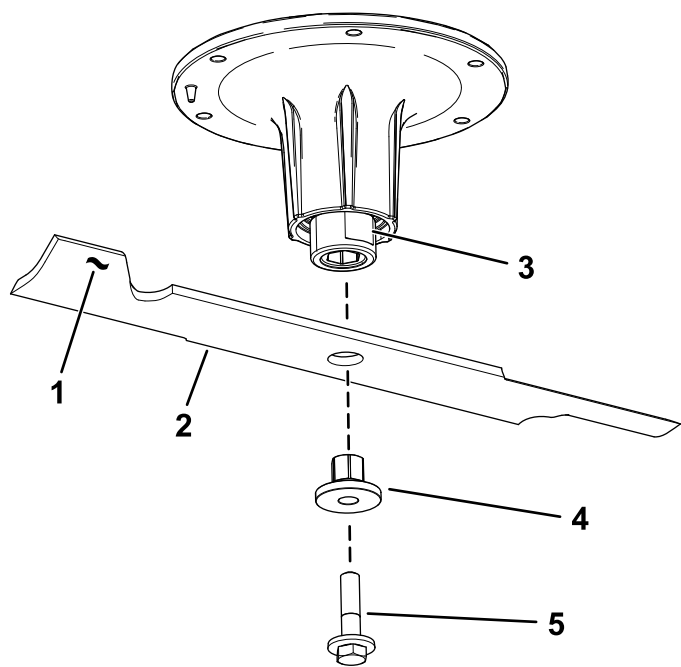

Figure 97
2. Remove the blade bolt, bushing, and blade from the spindle shaft (Figure 97).